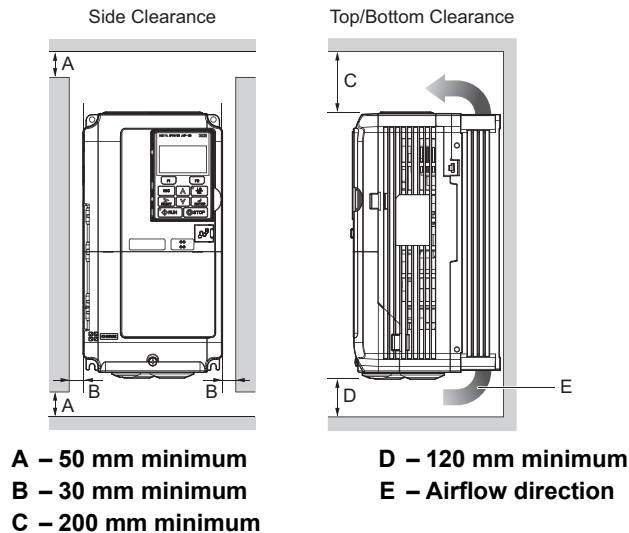

Figure 6 Correct Installation Spacing
*Figure 6* and *Figure 7* show the installation distance required to maintain sufficient space for airflow and wiring.